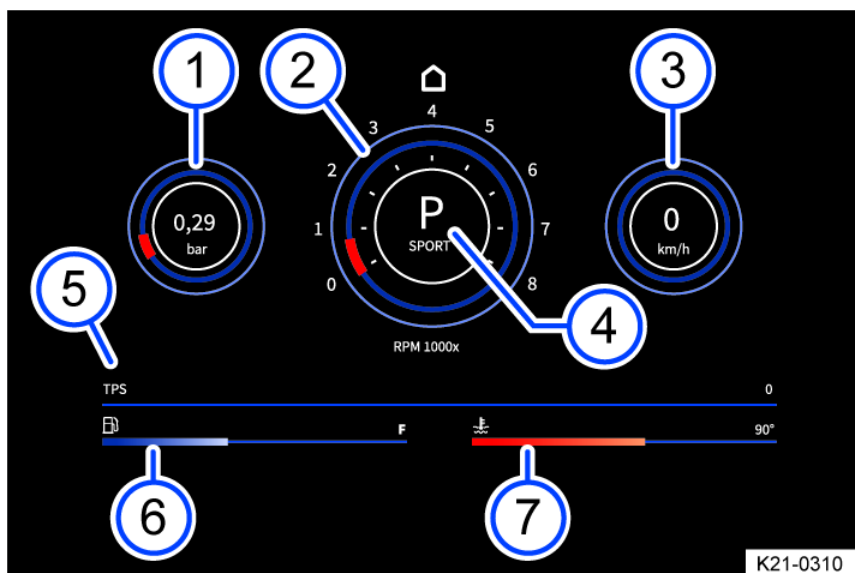

Fig. 17 On the Infotainment system screen: performance monitor.
- **Boost pressure indicator:** the boost pressure indicator fig. 17 (left) displays the boost pressure between the turbocharger and the engine in bar. The fuller the bar on the display, the more engine power is being used.
- **Tachometer:** The tachometer fig. 17 specifies the engine revolutions per minute.
- **Speed display:** The speed display fig. 17 shows the speed currently being driven at in km/h.
- **Gear indicator:** The gear indicator fig. 17 shows the currently engaged gear or selected lever position.
- **TPS display:** The TPS display fig. 17 shows the throttle position. The horizontal bar moves right when the accelerator pedal is pressed.
- **Fuel gage:** This display fig. 17 is synonymous with the fuel display on the Volkswagen Digital Cockpit. If the vehicle is consuming fuel, the horizontal bar moves left.
- **Coolant temperature gage:** This display fig. 17 is synonymous with the temperature display on the Volkswagen Digital Cockpit. If the engine is exposed to excessive load or high outside temperatures, the horizontal bar moves right. This is not a cause for concern as long as the indicator light in the instrument cluster display is off or blinking.